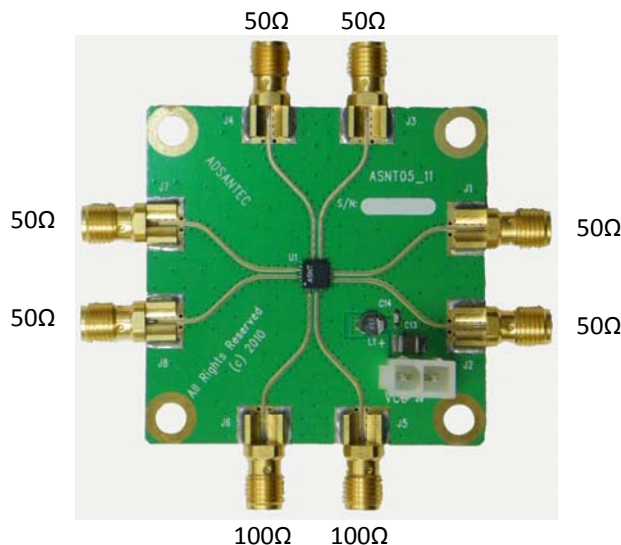

Fig. 5. Impedance of I/O Connectors
- Measure the resistance of all connector pins to VCC, including the power supply, while making sure the board is grounded. All high speed I/O ports should measure 50Ohms while on the power supply connector, VCC should be a short, and GND should be high impedance. icntp/icntn should measure 100Ohms and tnp/ttn should measure 50Ohms. Fig. 5 shows the resistance values of the described I/O connectors.